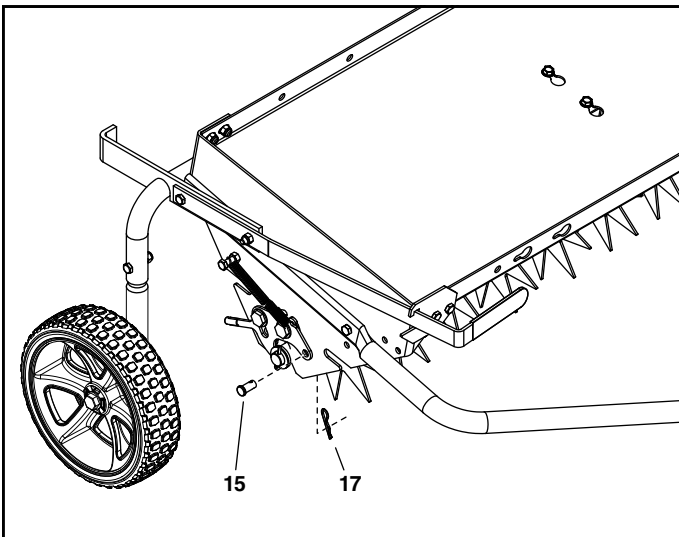

FIGURE 14
1. Secure each axle retainer to the tray assembly with a 3/8 x 3/4" clevis pin (15) and .08 x 1.58" hair cotter pin (17). See figure 14.
1. To remove a tool from the Smartlink Platform, remove the 3/8 x 3/4" clevis pins (15) and .08 x 1.58" hair cotter pins (17) securing the axle retainers to the tray assembly. See figure 14.
2. Use the handles on the axle retainers to unlock the tool, then remove it from the Smartlink Platform. See figure 14.
1. Attachez chaque plaque de fixation de l'essieu à l'assemblage du plateau à l'aide d'un axe à épaulement de 3/8 x 3/4 po (15) et d'une goupille fendue de 0,8 x 1,58 po (17). Voir la figure 14.